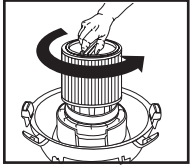

FIGURE 17
21. To remove the filter for cleaning, again hold the tank cover and turn the filter retainer counter-clockwise to loosen and remove. **FIGURE 17.**